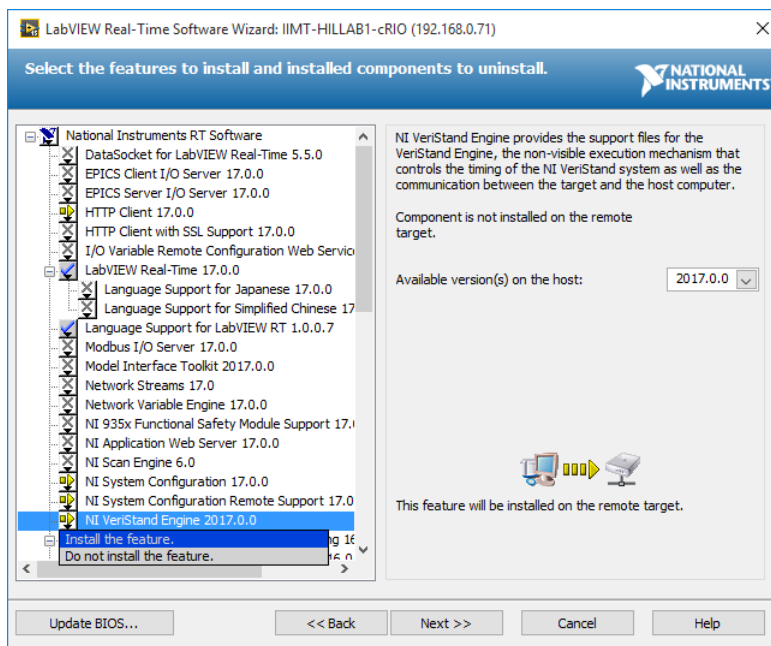

Figure 2.3: Install NI VeriStand Engine on cRIO
7. Right-click on Software once more, and select Add/Remove Software. Now, select Custom software installation. Choose Yes in the warning. Navigate to NI VeriStand Engine YYYY, and choose Install the feature. Press Next → Next → Finish. See Figure 2.3